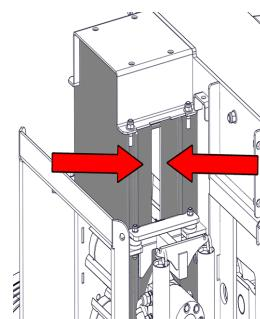

Figure 33 - Greasing the Roller box Slides
5. Apply thin grease, with a brush, directly to the slide surfaces, including the inner cheeks of the slider (Figure 33).